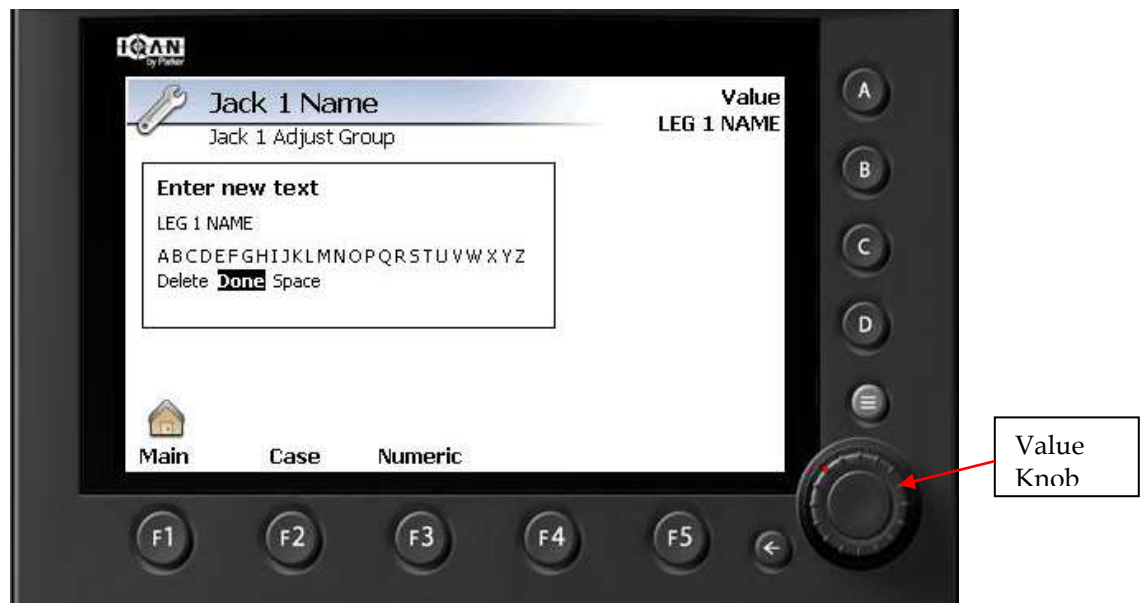

Figure 6.11 – Leg Name Screen
- Press F4 button (Adjust Name). The Leg name screen will be displayed. See figure 6.11 below.